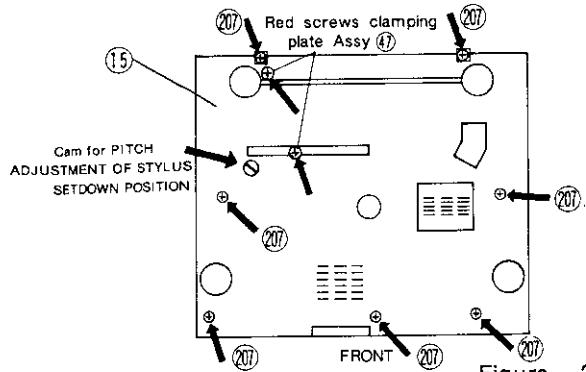

Figure 2
- 1-3. Remove the seven Screws (207) which mount the Cabinet bottom (15) (Fig. 2).